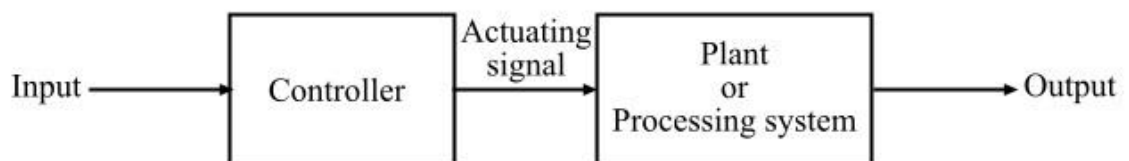

Figure 1 - Open Loop Control System
- Determine the h parameters of the circuit shown in fig 1.